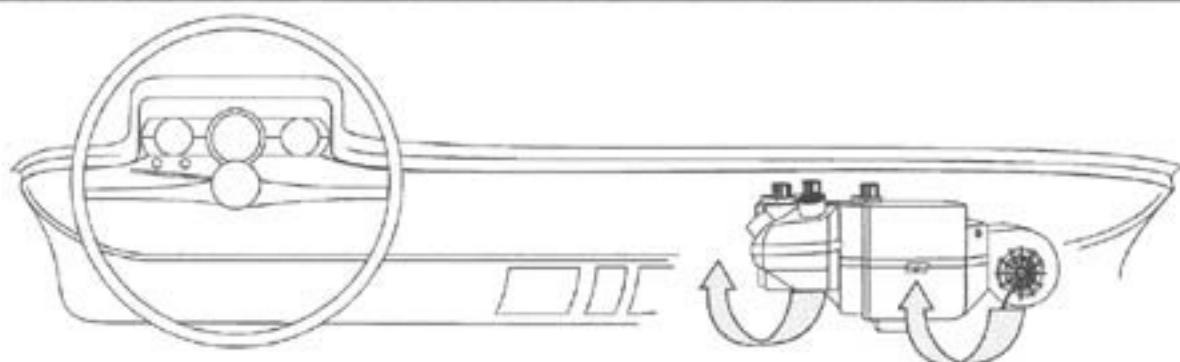
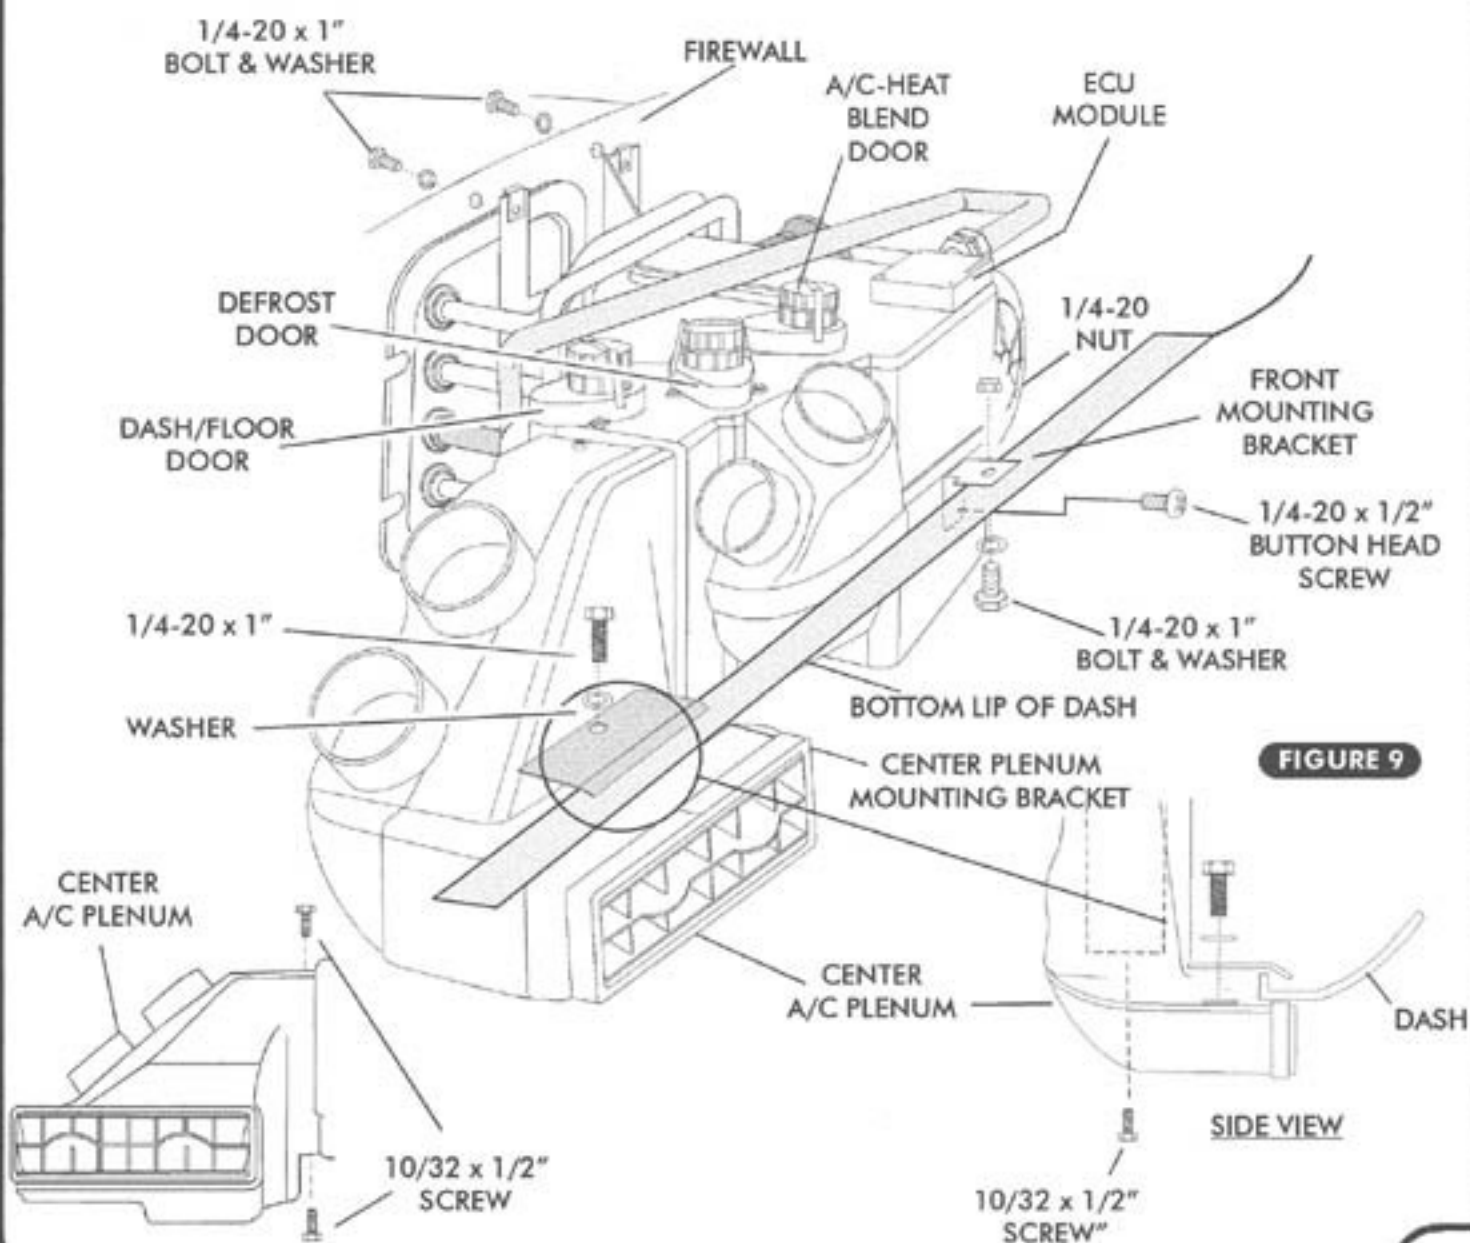
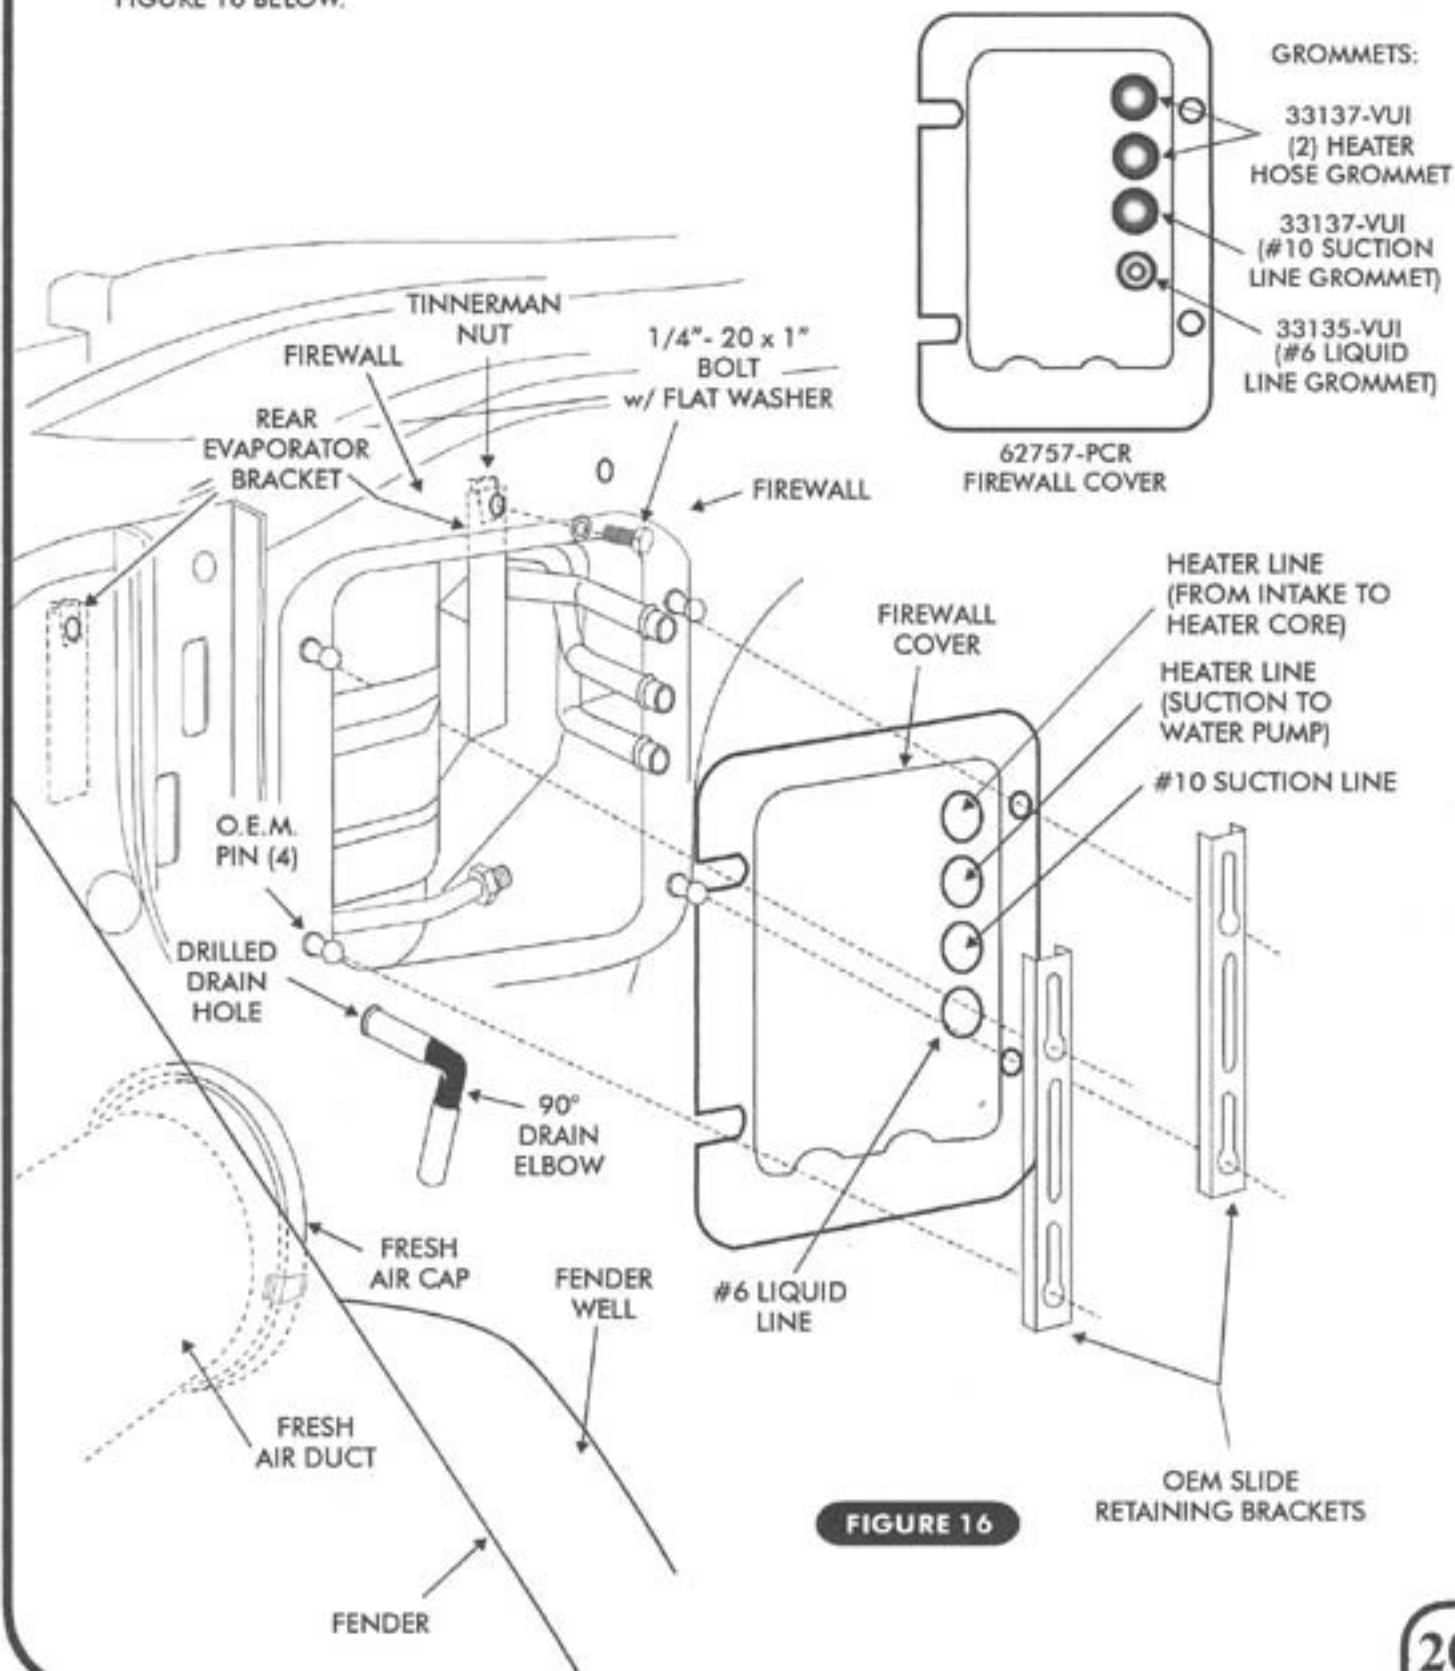

FIGURE 8b
FIGURE 9
FIGURE 16
- ☐ INSTALL FRONT MOUNTING BRACKET TO EVAPORATOR UNIT WITH 1/4-20 x 1/2" BUTTON HEAD SCREW & WASHER TIGHTEN AS SHOWN IN FIGURE 9, PAGE 14. LOOSELY ATTACH FRONT MOUNTING BRACKET TO DASH WITH 1/4-20 x 1" BOLT, WASHER AND NUT. SEE FIGURE 8 BELOW.
- ☐ LIFT EVAPORATOR UNIT UP & UNDER THE DASHBOARD (SEE FIGURES 8-8a BELOW & FIGURE 8b, PAGE 14). SECURE LOOSELY TO THE FIREWALL FROM THE ENGINE COMPARTMENT SIDE WITH (2) 1/4-20 x 1" BOLTS AND WASHERS. SEE FIGURE 9, PAGE 14 & FIGURE 16, PAGE 20.
- ☐ INSTALL CENTER A/C PLENUM TO EVAPORATOR WITH (2) 10/32 x 1/2" SCREWS. SEE FIGURE 9, PAGE 14.
- ☐ LOOSELY SECURE THE CENTER PLENUM TO DASH WITH THE CENTER PLENUM MOUNTING BRACKET, USING A 1/4-20 x 1" BOLT AND WASHER. SEE FIGURE 9, PAGE 14.
- ☐ DRILL 5/8" HOLE IN FIREWALL FOR DRAIN HOSE, USE FIREWALL HOLE TEMPLATE ON PAGE 25. SEE FIGURE 16, PAGE 20.
- ☐ CONNECT DRAIN HOSE TO BOTTOM OF EVAPORATOR UNIT AND ROUTE TO FIREWALL (SEE FIGURE 16, PAGE 20).
- ☐ SECURE THE FIREWALL COVER USING TWO O.E.M RETAINING BRACKETS. SEE FIGURE 16, PAGE 20.
- ☐ INSTALL FRESH AIR CAP TO FRESH AIR DUCT UNDER PASSENGER SIDE FENDER AS SHOWN IN FIGURE 16 BELOW.